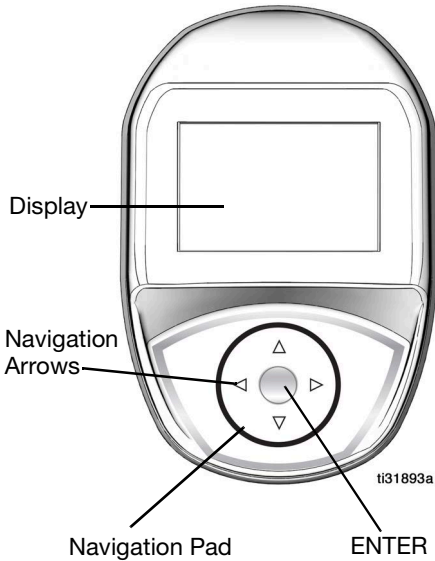

FIG. 1
The Navigation Pad (FIG. 1) includes four (4) navigation arrows (UP, DOWN, LEFT, RIGHT) and a center button (ENTER).